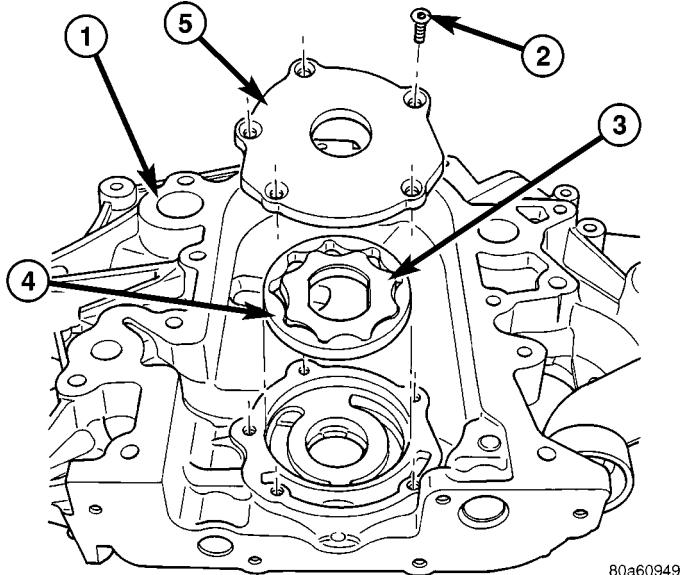

Fig. 106 OIL PUMP
The oil pump is contained within the timing chain cover housing (Fig. 106).
(1) Remove oil pump cover screws, and lift off cover (Fig. 106).
(2) Remove oil pump rotors (Fig. 106).
(3) Clean and inspect oil pump components. (Refer to 9 - ENGINE/LUBRICATION/OIL PUMP - CLEANING) (Refer to 9 - ENGINE/LUBRICATION/OIL PUMP - INSPECTION)